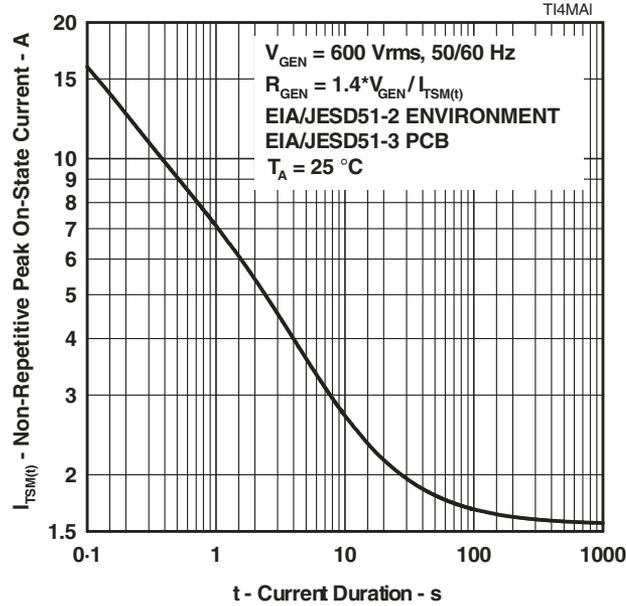

Figure 9.
5. EIA/JESD51-2 environment and EIA/JESD51-3 PCB with standard footprint dimensions connected with 5 A rated printed wiring track widths. See Figure 9 for the current ratings at other durations. Derate current values at $-0.61\text{ }^\circ\text{C}$ for ambient temperatures above $25\text{ }^\circ\text{C}$.
The protector can withstand currents applied for times not exceeding those shown in Figure 9. Currents that exceed these times must be terminated or reduced to avoid protector failure. Fuses, PTC (Positive Temperature Coefficient) thermistors and fusible resistors are overcurrent protection devices which can be used to reduce the current flow. Protective fuses may range from a few hundred milliamperes to one ampere. In some cases, it may be necessary to add some extra series resistance to prevent the fuse opening during impulse testing. The current versus time characteristic of the overcurrent protector must be below the line shown in Figure 9. In some cases, there may be a further time limit imposed by the test standard (e.g. UL 1459 wiring simulator failure).